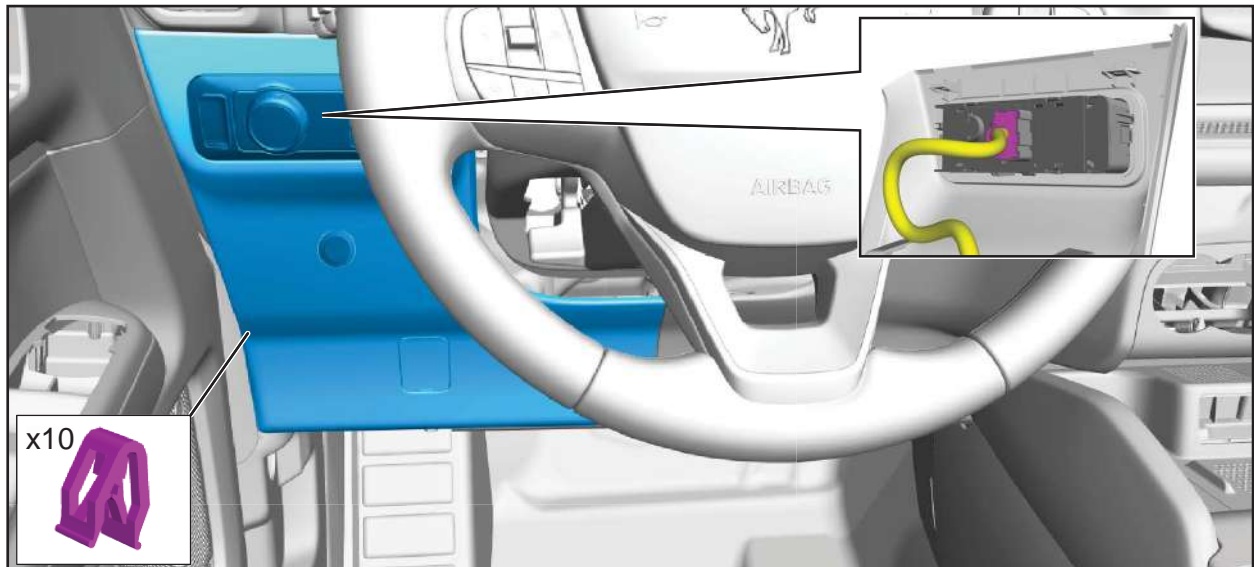

FIGURE 52
52. Install the LH steering column trim panel. See Figure 52.